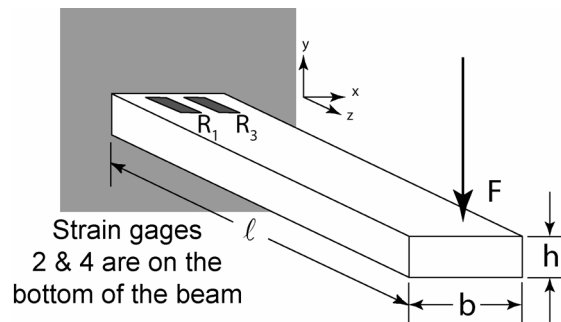
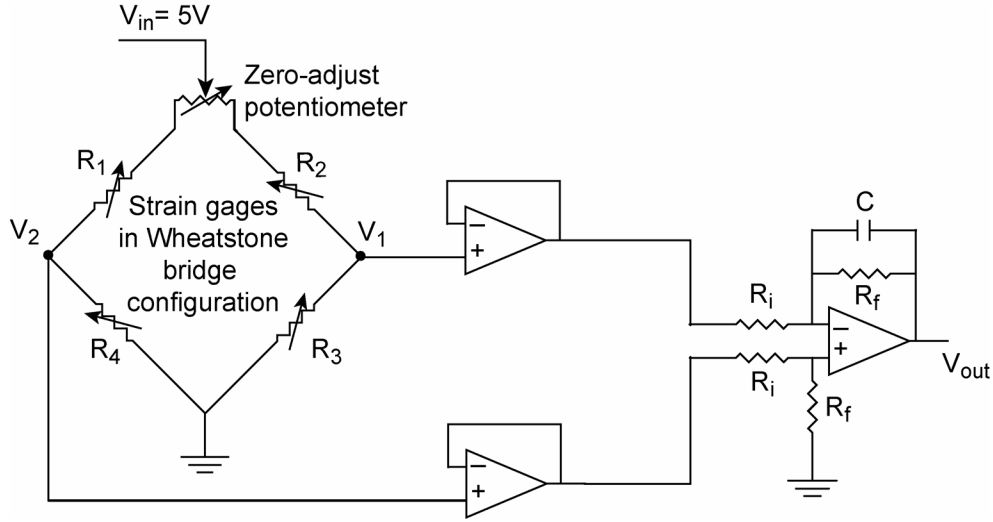

Figure 1: Cantilever beam with strain gauges attached.
Figure 2: Wheatstone bridge amplification circuit
A bonded metal foil strain gage is a variable resistor whose change in resistance is proportional to the strain in the material upon which it is mounted. To obtain accurate results, the gage must be well adhered to the surface of the material and the gage's grid properly aligned with the direction of the deformation. A common configuration to measure the force exerted on a cantilever beam utilizes four gages (see Figure 1). The dimensions of the beam in Figure 1 are ℓ , b , and h , corresponding to length width and height respectively. A point force of magnitude F is applied to the free end of the beam in the $-y$ direction. Two gages are mounted on the bottom of a beam, and two on the top. They are wired together to form a Wheatstone bridge circuit, which provides maximum sensitivity to very slight changes in resistance. The Wheatstone bridge circuit used in this lab is depicted in Figure 2 on the next page.
The op-amp circuit on the right of Figure 1 consists of two buffers and a differential amplifier. The differential amplifier has two jobs: it subtracts one signal from another, and it amplifies this difference according to the following relationship:
4. Build the amplifier circuit needed for this lab using Figure 2 as a guide. Use the bench power supply to supply the ± 12 Volt supply for the LM324 quad op-amp chip; don't forget to include a capacitor in the feedback path. Size the capacitor for a cut-off frequency of around 4π rad/s.